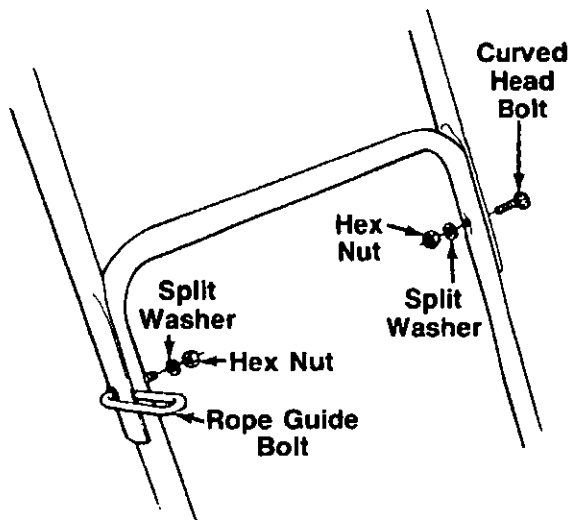

FIGURE 2.
2. Secure the left hand side of upper handle using the curved head bolt, split washer and hex nut as shown in figure 2. ←